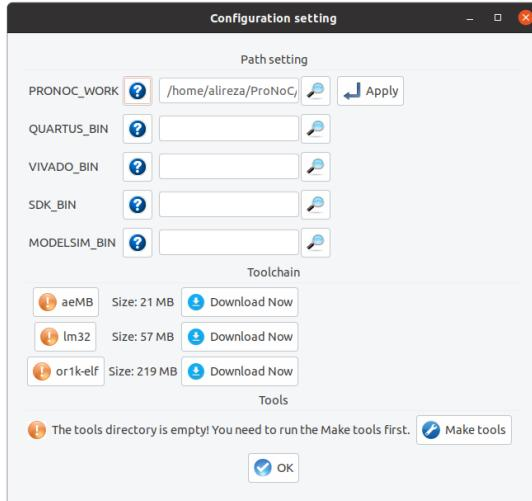

Figure 1.2: ProNoC configuration setting window snapshot.
5. If it is your first time running the ProNoC software, you will see the settings window shown in Figure 1.2.